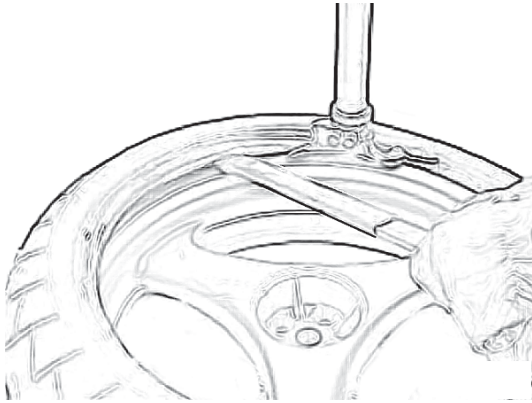

Fig. 4.3-1a
A. After installing, the bottom bead insert the tire tool to the left of the bead head as shown (Fig. 4.3-1a). To protect decorative rims use protective sleeve p/n EAA0247G04A (optional).